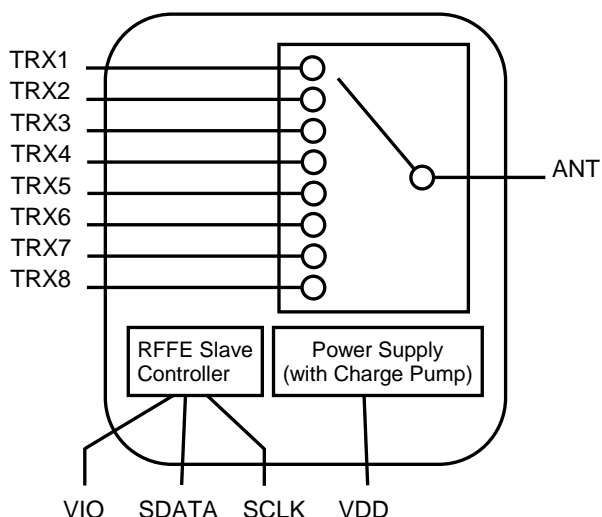
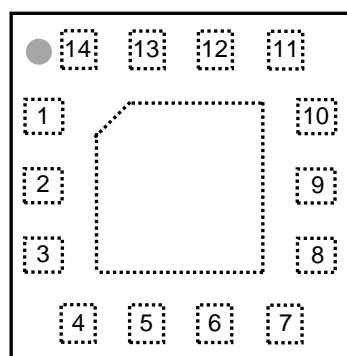

Figure 1. RFASWD658FTF03 Block Diagram
Figure 2. RFASWD658FTF03 Pin assignment
- The functional block diagram is shown in Figure 1. The pin assignment and package are shown in Figure 2. Signal pin assignments and functional pin descriptions are provided in Table 1.